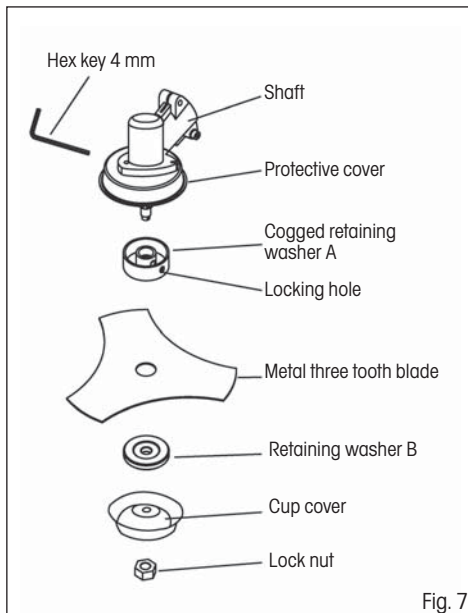

Fig. 7
- ✿ Lock the shaft in place by inserting the included 4mm hex key (see Fig. 7). To achieve this, it is necessary to align the hole in the protective guard with the hole in the shaft and insert the hex key. Align the holes by turning the protective guard.